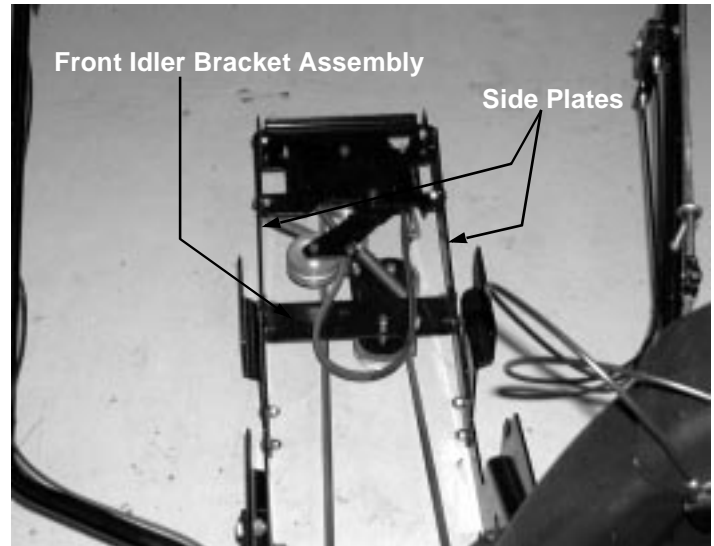

Figure 1
4. Install front idler bracket assembly to the new side plates. Align holes in front idler bracket with holes in side plates and secure with hardware provided. See Figure 1.